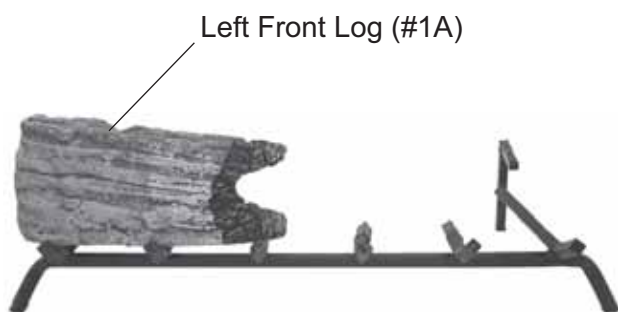

Figure 113 - Placing Left Front Log #1A on Grate
2. Place Left Front Log #1A on front left of grate. *See Figure 113.*